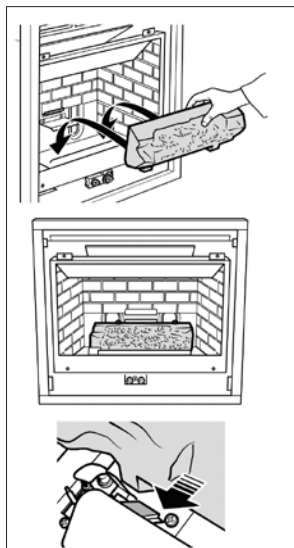

Figure 35 Ash bed
1. Place the ash bed in position. The projections at the front of the ash bed locate against the sloping metal stops immediately behind the burner. See figure 35.